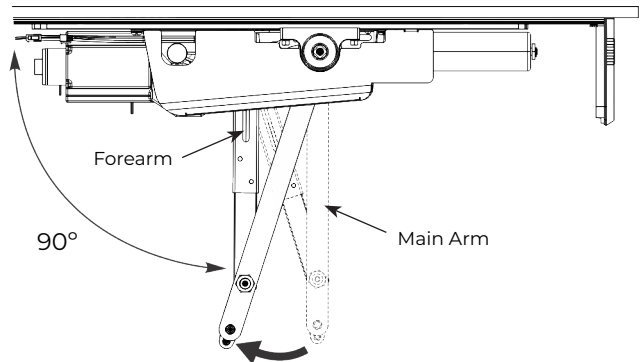

Figure 30 View from ceiling looking downward
- With door closed, rotate main arm away from hinge until forearm is perpendicular (90 degrees) with door. (Figure 30)